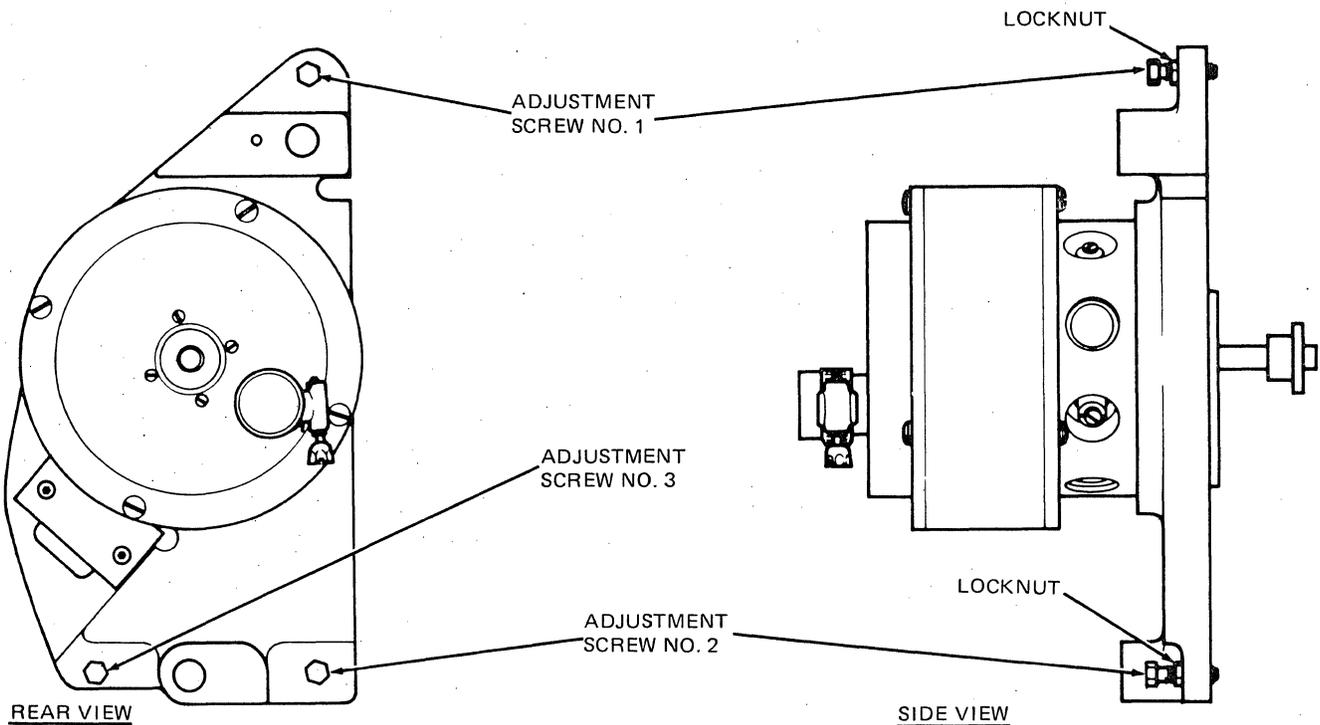

Figure 4-3. Capstan Motor Assembly
turns (see Figure 4-3). Ensure that the vacuum column back plate is $17/32 \pm 1/64$ inch from the front edge of the capstan (check at three points around the circumference of the capstan). See CAUTION note in step five of this procedure.
5. Using the field tester, perform forward and backward continuous read operations to check the tape tracking. For any tracking corrections, use the adjustment screws shown in Figure 4-3.